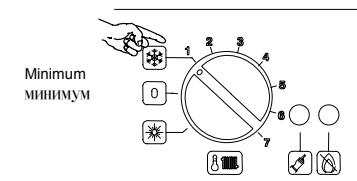

Fig. 2.6
The output temperature of C.h. water is adjustable from a minimum of about 38°C to a maximum of about 80°C (Fig. 2.6), by turning the knob (7).